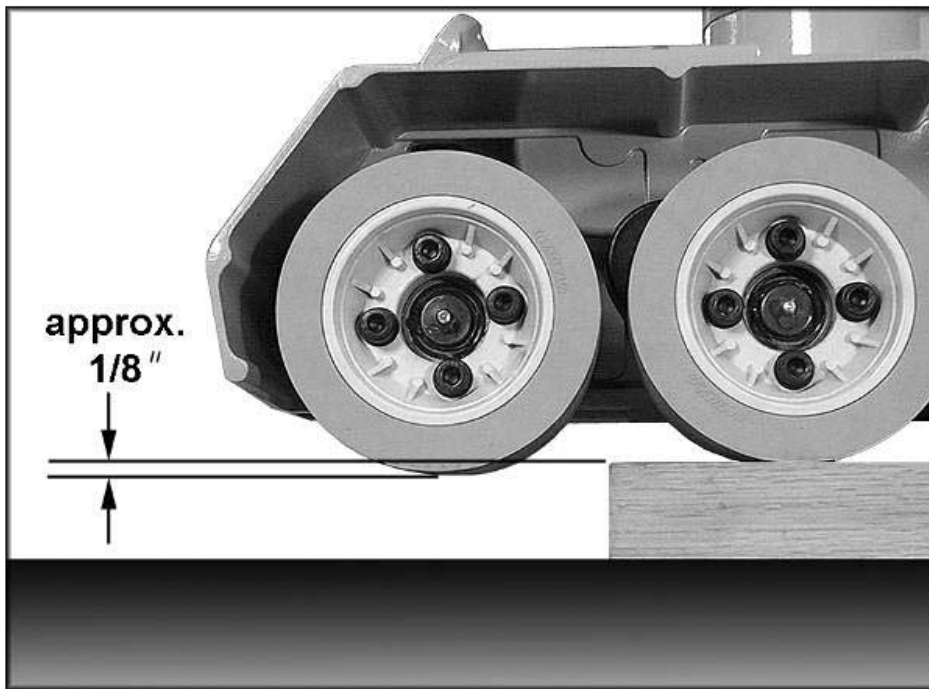

Figure 13 - Vertical Position of Feeder
6. When used in horizontal position, the stock feeder should be adjusted for height so that the distance between the table and the feed rollers is approximately 1/8" to 1/4" less than the thickness of the workpiece. See Figure 13.